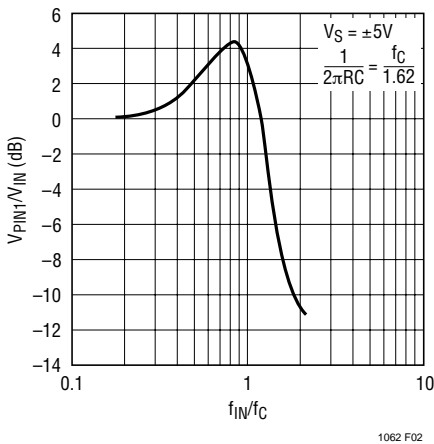

Figure 2. Amplitude Response of Pin 1
Every node of the LTC1062 typically swings within 1V of either voltage supply, positive or negative. With the appropriate external (RC) values, the amplitude response of all the internal or external nodes does not exceed a gain of 0dB with the exception of Pin 1. The amplitude response of the feedback node (Pin 1) is shown in Figure 2. For an input frequency around  $0.8 \cdot f_c$ , the gain is 1.7V/V and, with  $\pm 5V$  supplies, the peak-to-peak input voltage should not exceed 4.7V. If the input voltage goes beyond this value, clipping and distortion of the output waveform occur, but the filter will not get damaged nor will it oscillate. Also, the absolute maximum input voltage should not exceed the power supplies.